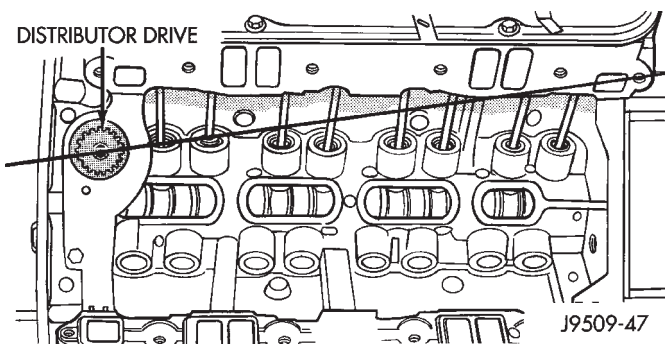

Fig. 36 Position of Oil Pump Shaft Slot
- (1) Rotate crankshaft until No.1 cylinder is at top dead center on the firing stroke.
- (2) When in this position, the timing mark of vibration damper should be under "0" on the timing indicator.
- (3) Install the shaft so that after the gear spirals into place, it will index with the oil pump shaft. The slot on top of oil pump shaft should be aligned towards the left front intake manifold attaching bolt hole (Fig. 36).